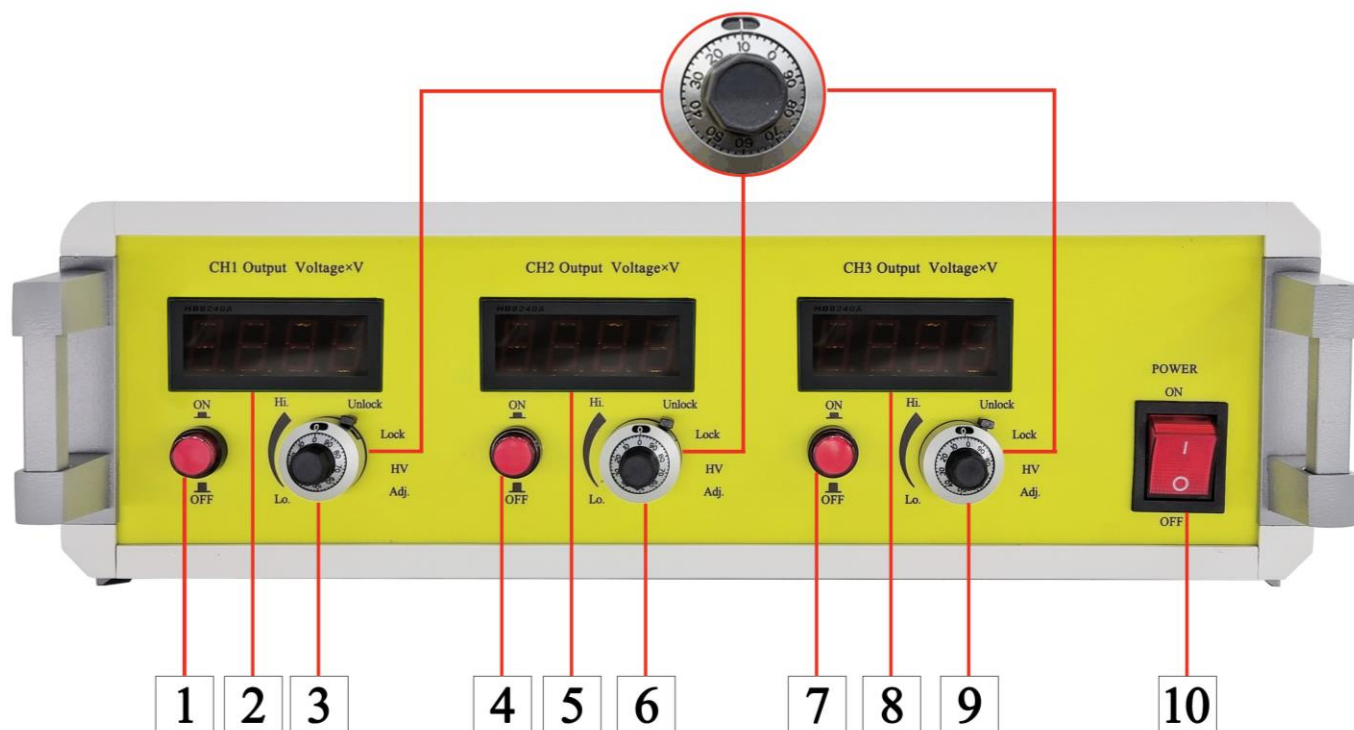

Figure 2. Front Panel
3. CH1 HV adjustment: 10-turn potentiometer for adjusting output voltage. Rotate it clockwise to increase the output voltage, and the potentiometer resistance = the corresponding scale  $\times 20\Omega + N \times 2k\Omega$ . The number of turns (N) is shown in the frame above the scale. For example, as Figure 2 shows, when the scale is 10, and the frame above the scale shows 1 (2k $\Omega$ ), then the resistance =  $10 \times 20\Omega + 1 \times 2k\Omega = 2.2k\Omega$ , and the like.
6. CH2 HV adjustment: 10-turn potentiometer for adjusting output voltage. Rotate it clockwise to increase the output voltage, and the potentiometer resistance = the corresponding scale  $\times 20\Omega + N \times 2k\Omega$ . The number of turns (N) is shown in the frame above the scale. For example, as Figure 2 shows, when the scale is 10, and the frame above the scale shows 1 (2k $\Omega$ ), then the resistance =  $10 \times 20\Omega + 1 \times 2k\Omega = 2.2k\Omega$ , and the like.
9. CH3 HV adjustment: 10-turn potentiometer for adjusting output voltage. Rotate it clockwise to increase the output voltage, and the potentiometer resistance = the corresponding scale  $\times 20\Omega + N \times 2k\Omega$ . The number of turns (N) is shown in the frame above the scale. For example, as Figure 2 shows, when the scale is 10, and the frame above the scale shows 1 (2k $\Omega$ ), then the resistance =  $10 \times 20\Omega + 1 \times 2k\Omega = 2.2k\Omega$ , and the like.